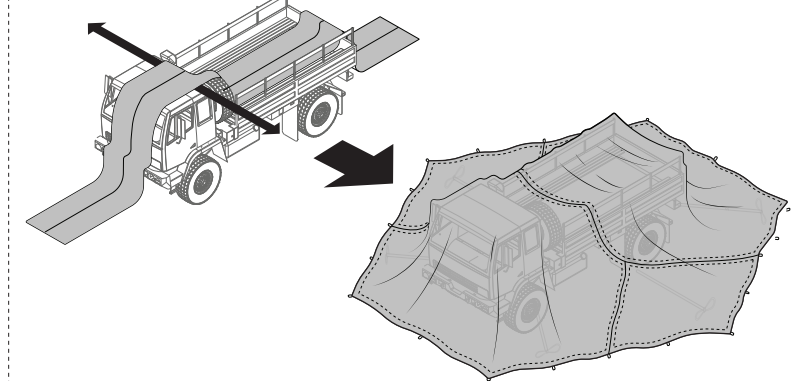

Figure 11.
5. Unroll ULCANS net assembly outward, over equipment and support poles (Figure 11).